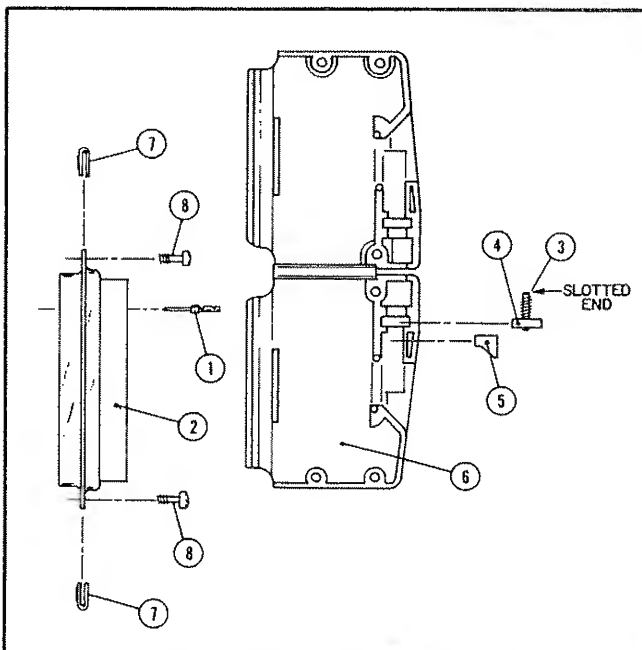

Figure A-1. Mating Connector Assembly
A-17 The following instructions describe assembly of the mating connector provided to interface the user's system with the option connector, J2. Figure A-1 identifies the parts of the mating connector. Proceed as follows:
- e. Screw a slotted set-screw (3) partially into a square nut (4) and place in position in connector shield assembly (6).
- f. Place strain relief (5) in position in connector shield assembly (6), just under set screw (3). Be certain that strain relief is oriented as shown in Figure A-1.
- g. Place connector pin housing (2) in shield assembly (6) and route cable through cable entrance.
- h. Fold connector shield assembly (6) and secure with three screws.
- i. Strain relief set screw (3) can now be adjusted from top of connector to clamp firmly on cable.
- j. Clip fasteners (7) onto ends of connector pin housing (2).
- k. Connector can now be plugged onto option connector J2 and secured with two screws (8) into the threaded stand-offs on either side of J2.